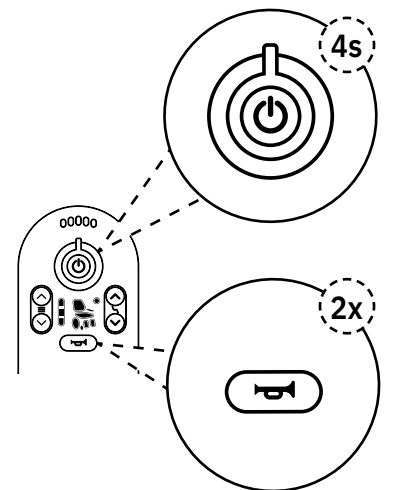

Figure 5.9. Button lock on the LiNX REM211.
2. To disable the button lock, press the main switch and wait until the green, yellow and red LED flashes. Then, press the horn button twice in the space of 10 seconds, see Figure 5.9. The control unit is activated.